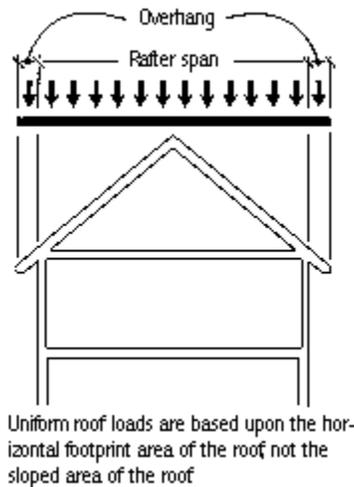

Figure 1
Let's trace distributed loads for several different houses. Assume that all are located in the same climate, but have different loading paths because of the way they are built. These examples illustrate how distributed loads are assigned to structural elements. Our sample homes are in Zone 1 (Figure 21.02) where the snow load is 40 pounds per square foot of roof area (treat snow as live load). Check your code book for live loads and dead loads in your region. All loads are listed as pounds per square foot and assumed to act vertically over the roof area projected upon a horizontal plane as required by COMM 21.02 (1) (b) 1., (footprint area). (SEE FIGURE 1)